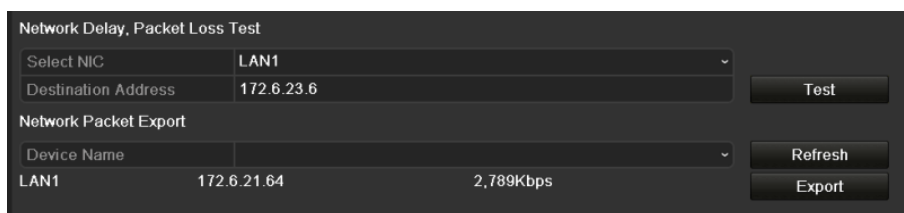

Figure 13-24 Network Detection Interface
Step 2 Click the **Network Detection** tab to enter the Network Detection menu, as shown in Figure 13-24.